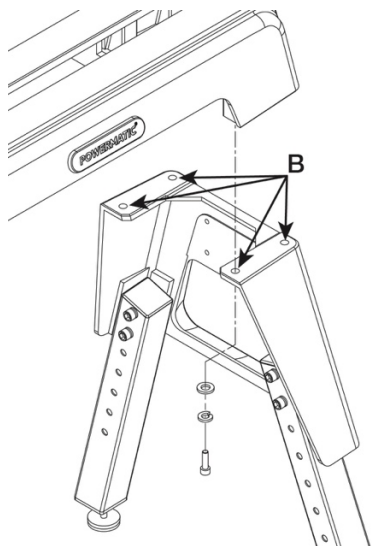

Figure 6-6
4. The top of each stand base section has four mounting holes (B, Figure 6-6). Align mounting holes with mounting holes on lathe bed. Load each 5/16" mounting bolt with a lock washer and flat washer. Insert mounting bolts through the stand base mounting holes and into the threaded lathe bed mounting holes. Tighten each mounting bolt firmly.